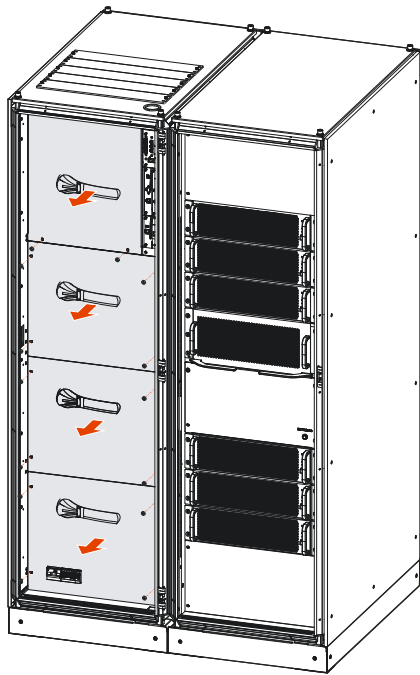

Figure3-20 Dismantle the wiring plates of distribution cabinet
Step 2 Loose the screws of each wiring plate, dismantle the wiring plates, as shown in Figure3-20.